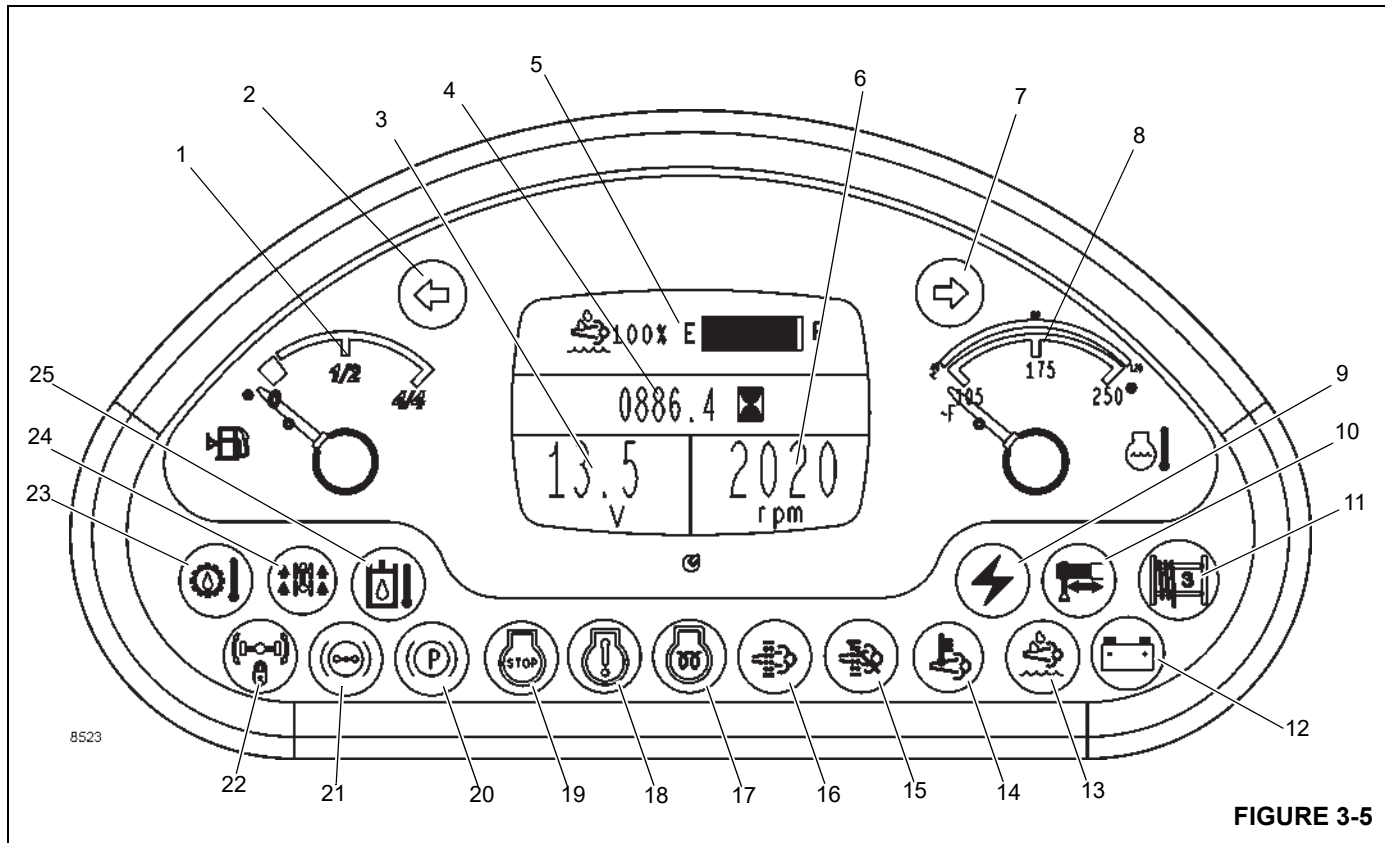

FIGURE 3-5
(Figure 3-5) Item Numbers
The Fuel Gauge (1) (Figure 3-5) indicates the quantity of fuel in the fuel tank and has a scale calibrated from 0 (empty) to 4/4 (full). The fuel gauge receives a signal from a sending unit in the fuel tank.
The Inhibit Exhaust System Cleaning Indicator (15, Figure 3-5) illuminates amber when the Exhaust System Cleaning Switch is in the INHIBIT position.
If the condition persists, the stop lamp (17, Figure 3-5) will flash to warn the driver that the engine should be shut down and the problem resolved before starting the engine again.